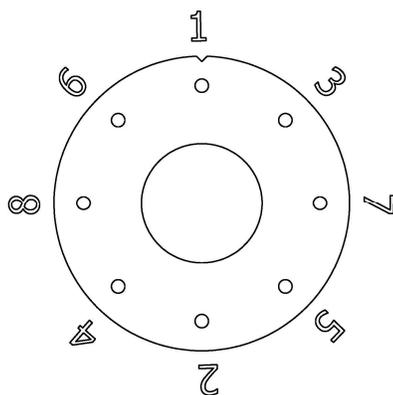
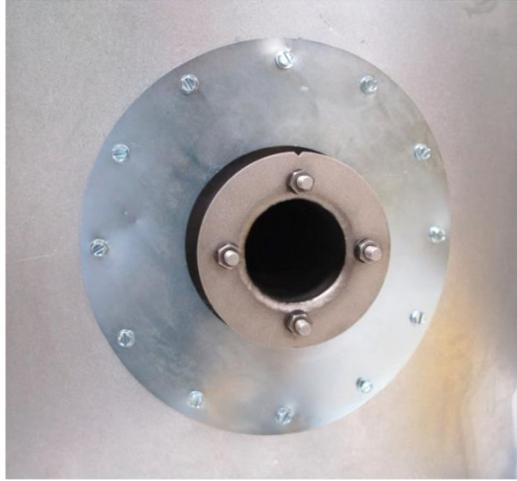

Figure 9: Fastening Order & Collector Installed
Figure 10: Outer Plate Installed
12. Using the 7/32" drill bit, mark the center of the (7) remaining holes of the collector onto the inner stack. **NOTE: Do not drill through the inner stack with this bit. This step is only meant to put a mark on the inner stack.**
13. Remove the #12 screw and the collector. Use the 1/8" drill bit to drill the (7) remaining marks (created in the previous step) through the inner stack. Keep the bit as perpendicular as possible.
14. Insert the collector and put it in the correct orientation. Install the (8) #12 sheet metal screws in the order outlined in Figure 9. This is an important part of creating a good seal. **NOTE: Do not use excessive torque on the screw! The inner stack is typically not very thick and the screws can strip out if excessive torque is applied. Set the torque clutch on the cordless drill/driver to a lower setting if possible.**
When finished, the installed collector should look like Figure 9.
16. Fasten the outer plate to the outer wall of the stack with (12) #8 self-tapping screws. Follow a similar fastening order as Figure 9. Figure 10 shows the outer plate installed.